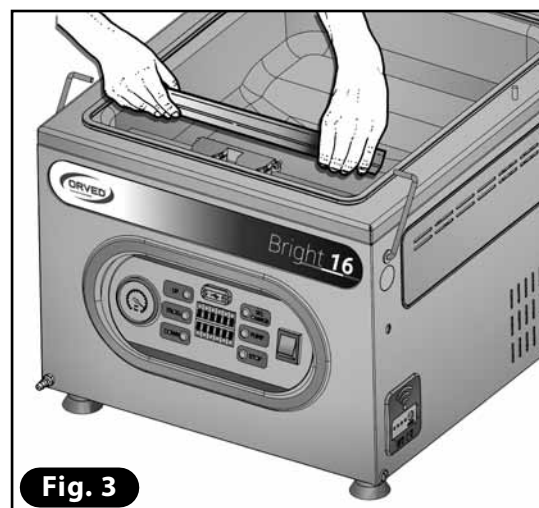

Fig. 3
- 3) Put the sealing bar back in the tank, making sure it engages correctly with the electrical contacts (**Fig. 3**).